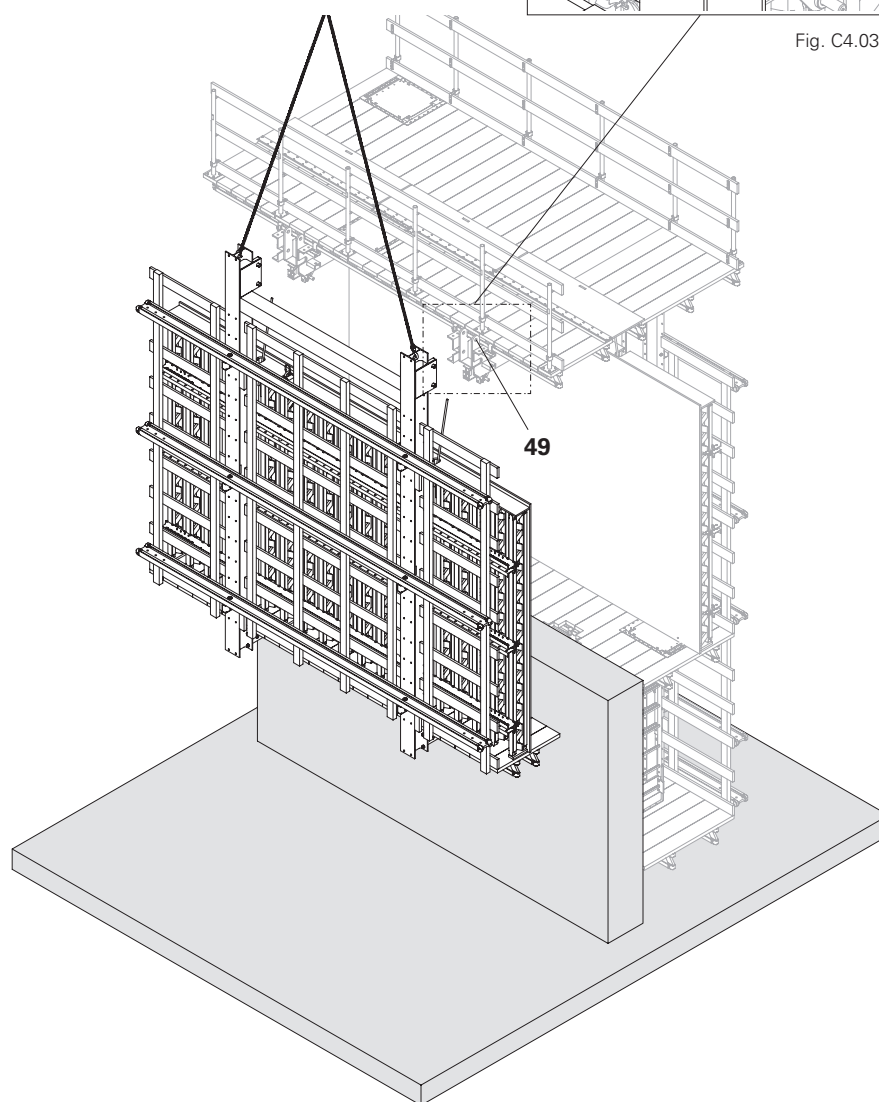

Fig. C4.03
1. Attach the crane hooks to the holes of Platform Post 5900 IPBL 240 ACS (57).
2. Fly in the counter-platform and bolt it to the Gallows 3325 ACS-G (49) with the fixing materials provided.
- (Fig. C4.03 + C4.03a)